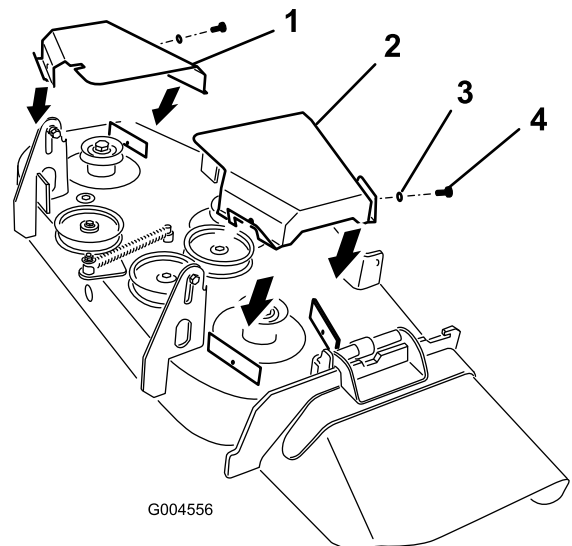

Figure 45
3. Remove 2 bolts and washers in each belt cover and remove the belt covers over the outside spindles (Figure 45).
8. Install the belt covers over the outside spindles (Figure 45).